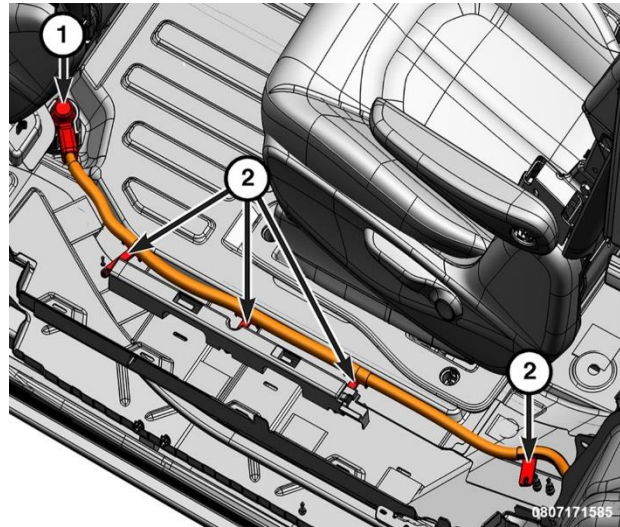

Figure 47 – Quarter Trim Panel
57. Pull back the floor covering to gain access to the 12-volt cable, remove the clips (2) and remove the cable from the vehicle. Render the cable unusable and discard (Figure 47).
58. Position the **NEW** 12-volt cable into the vehicle, secure the clips (2) (Figure 47).